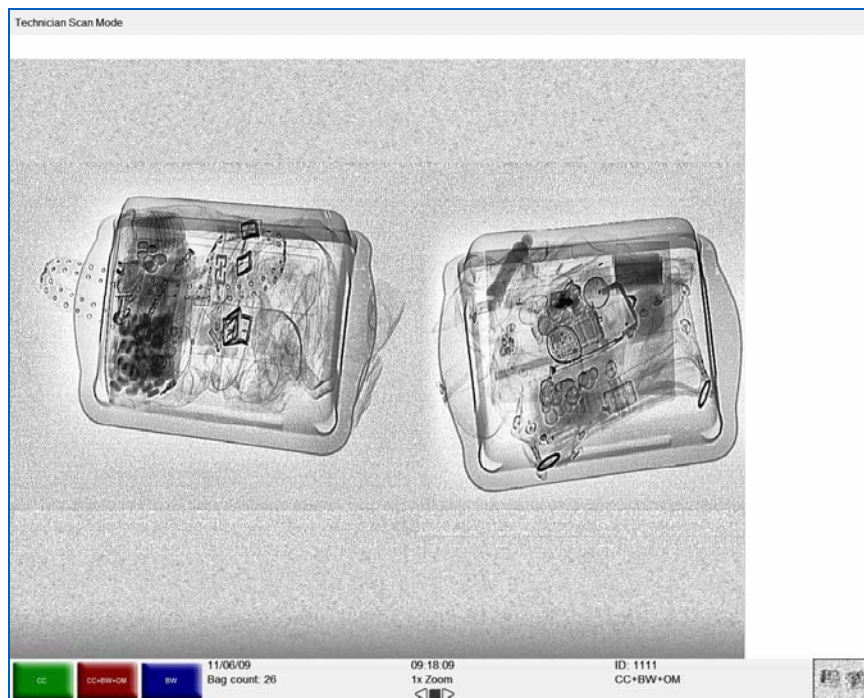

Figure 232: Multiple Image Processing Functions
- Right-click until you return to the main screen (without the main menu showing) where you'll see that the functions you chose have been assigned to the function button you selected (Figure 232)
Figure 232 shows the red button now representing the CC, B&W and HP functions. Now each time that button is selected, all three of those functions will be applied to the scanned image whenever the blue button is selected. Of course an operator may choose any number of functions to assign to any one of these buttons.